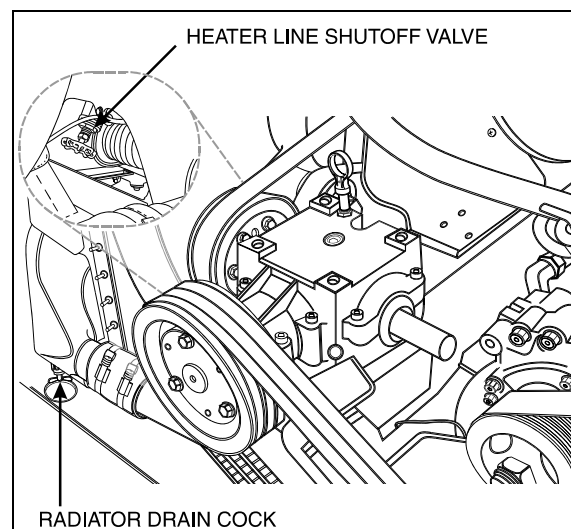
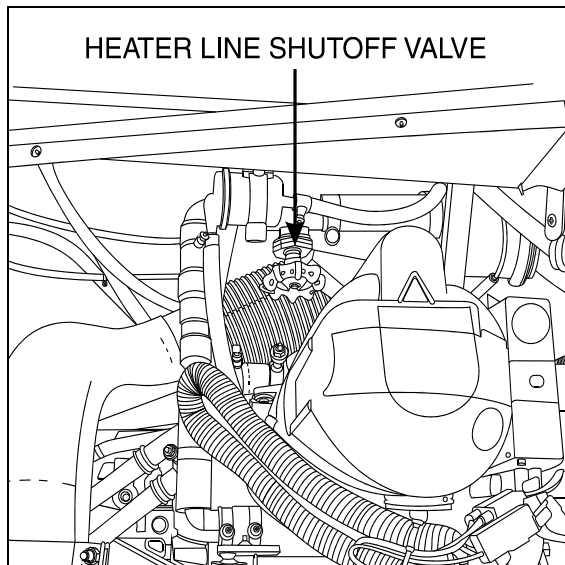

FIGURE 5: ENGINE COMPARTMENT
FIGURE 6: REAR ELECTRICAL COMPARTMENT 05058
1. Stop engine and allow engine to cool. Close both heater line shutoff valves. One valve is located in the engine compartment under the radiator fan gearbox (Fig. 5). Another valve is located in the L.H. rear electric compartment near the optional coolant heater (Fig. 6).
4. Open the radiator drain cock (Fig. 5).